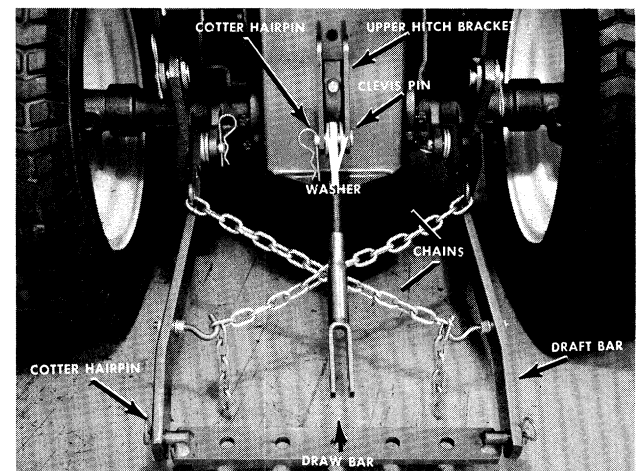

FIGURE 3. THREE POINT HITCH
Step 5. Assemble the draw bar to the draft bars and secure with cotter hairpins. See Figure 3.
Step 7. Place a lockwasher on the hook bolt and place the hook bolt through the draft bar so it is on the inside. Do this on both draft bars. See Figures 3 and 7.
Step 8. Fasten the chains to the rear hook welded on the draft bar and cross over to the hook bolt. Do both chains this way. See Figure 3. Pull the chains to make as tight as possible.
Step 9. Tighten the outside nuts on the hook bolt until there is only about 1/2" slack in the center of the chain. See Figures 3 and 7.
Step 12. Assemble the flat end of the Center Adjustment Arm to the bottom hole in the Upper Hitch Bracket with two flat washers, a clevis pin and a cotter hairpin. See Figure 3.
The upper hitch bracket can be attached in the lower mounting position as shown in Figure 3 or the two bolts can be removed and the upper hitch bracket can be mounted in the higher position. It also can be mounted upside down to obtain the maximum adjustment when using the rear mounted attachments.
The draft bars can also be switched from side to side so they bow in instead of out as shown in Figure 3.